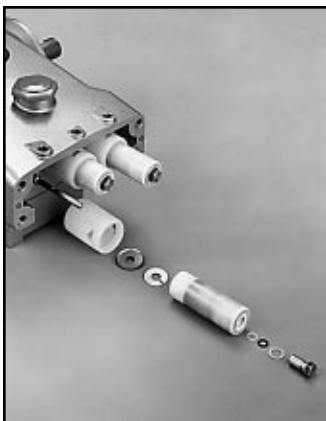

Fig. 13
4. Unthread the Plunger Retainer with Gasket, O-Ring, Back-up-Ring and Ceramic Plunger. Remove the Keyhole Washer and Barrier Slinger from the Plunger Rod. (Fig. 13) and (Fig. 14)